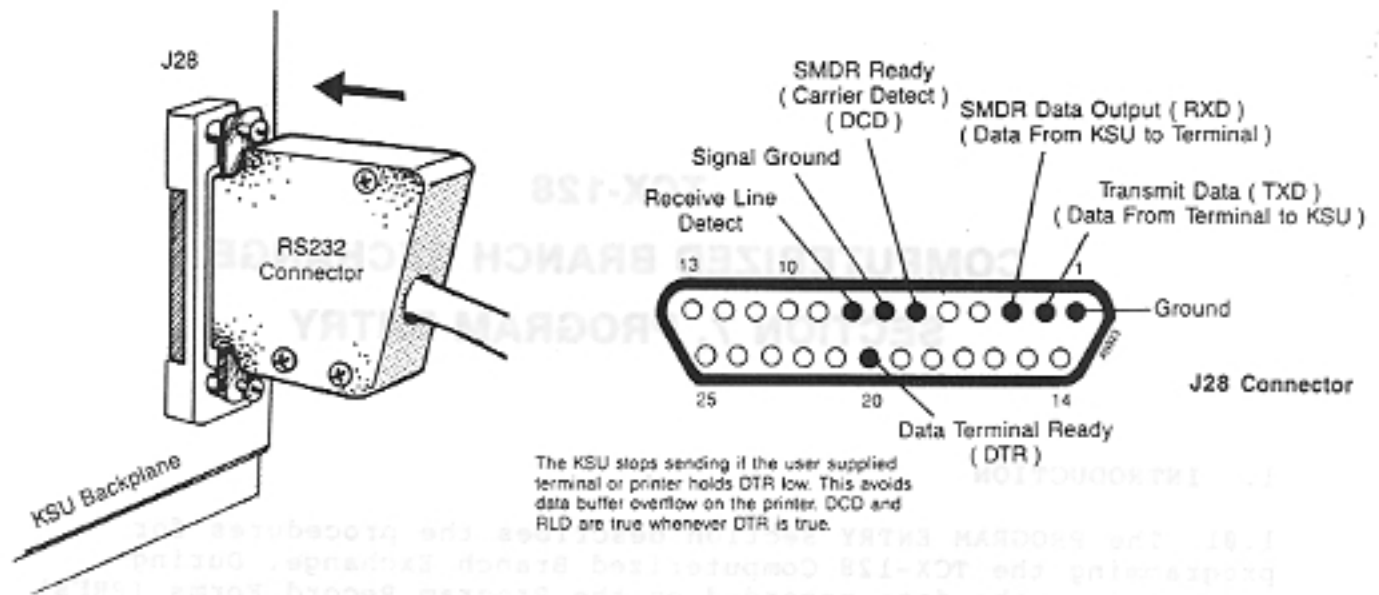

Figure 7-1 RS-232-C INTERFACE CONNECTOR AND PIN ASSIGNMENT (J28), TCX-128
- (1) Programming information must be recorded on the PRFs before programming the system.
- (2) Plug any ASCII terminal or printer having an RS-232-C interface into the J28 connector (Figure 7-1) on the KSU backplane.
(1) Turn off the KSU power supply.
(2) Using proper static precautions, briefly unplug the battery strap on the B-CPU-B PCB (per Figure 7-1). This clears the on-board Random Access Memory (RAM).
(3) Connect the B-CPU-B PCB battery strap from E1 to E2 (refer to Figure 7-1).
(4) Turn on the power supply.
- (5) Press the M key. The following menu appears: